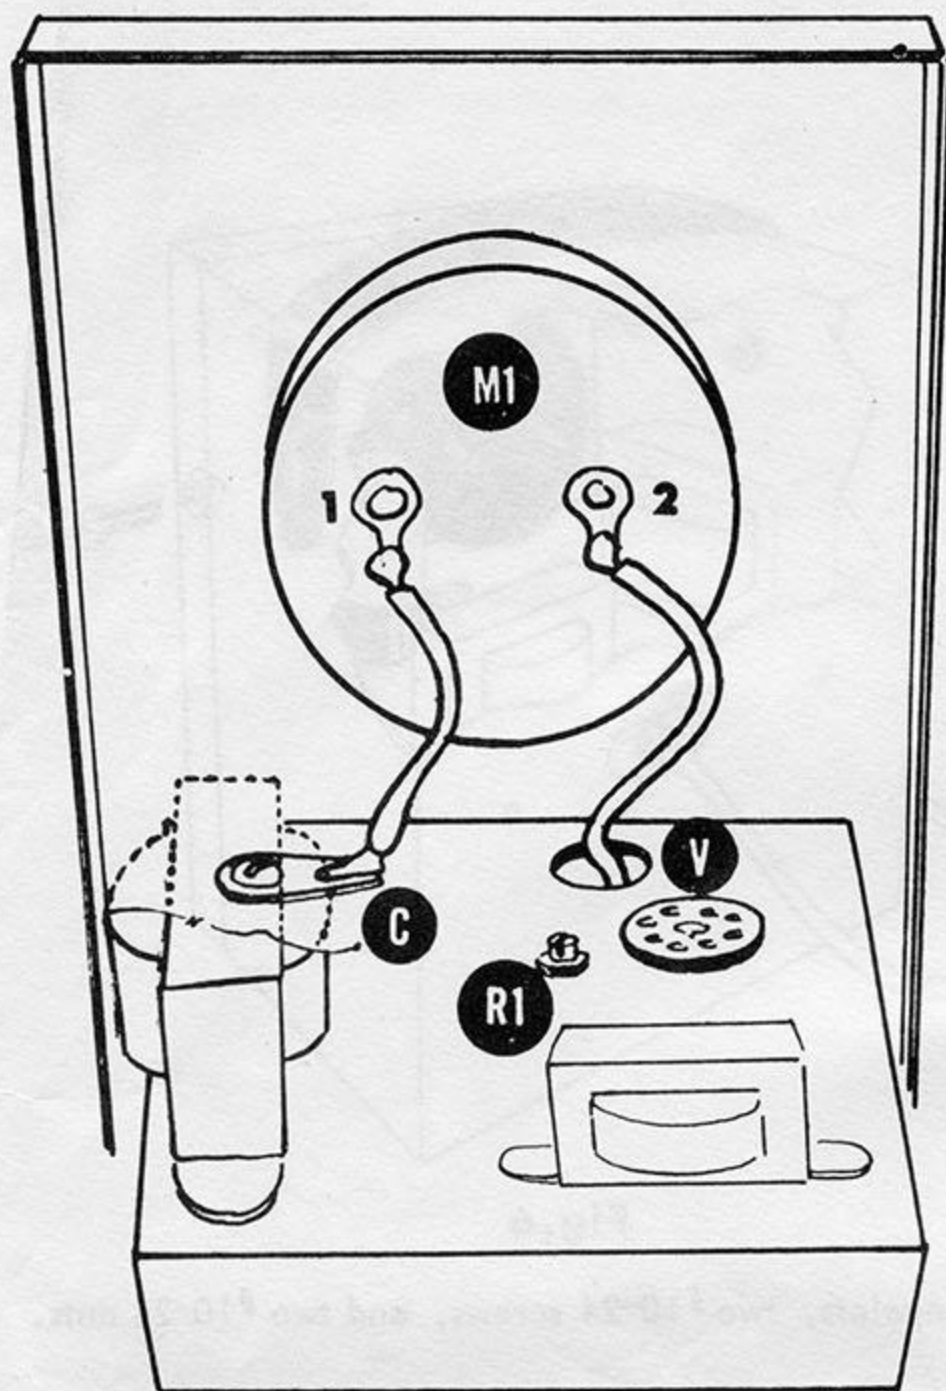

Fig. 5
- () Fig. 5. Connect a length of bare wire from M1-1 (S) to ground lug "C".
- () Fig. 5. Connect the piece of hook-up wire (emerging from hole V) to M1-2 (S).